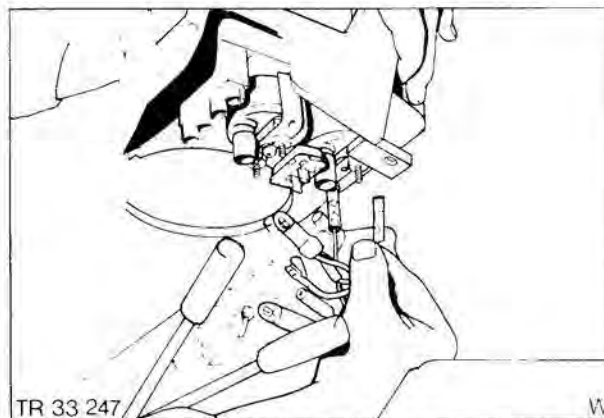

Fig. 29. Connecting wires to gauge
7. Reconnect illumination bulb/socket and two gauge wires. Fig. 29.